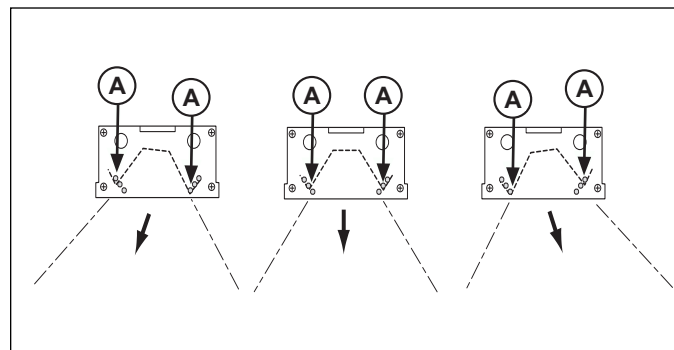

Figure 10. Reflector Positions.
3. Remove the small screws (A) from the holes on the end alignment plates. There is one screw on each side of the end plate that secures the reflector. See Figure 10.